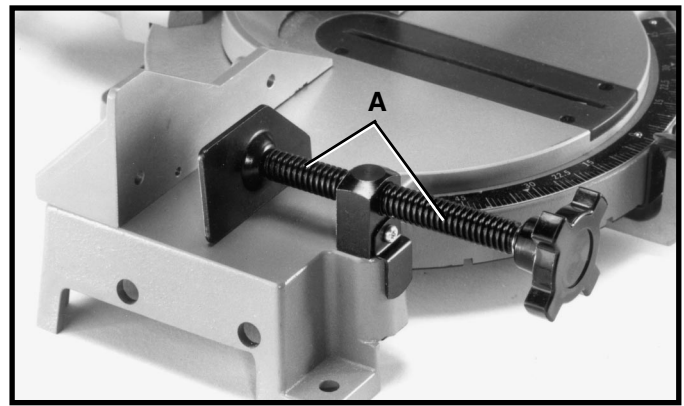

Fig. 9
1. The work clamp (A) Fig. 9, can be used on either the right or left side of the saw base. Insert post of work clamp into the hole located on the front of the saw base, as shown. Work clamp 36-221 is available as a accessory. (See ASSESSORIES section)